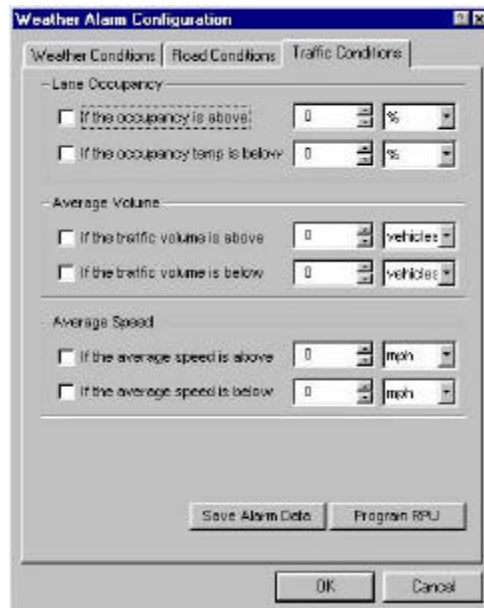

Figure 3.24 Traffic Condition Alarm
1. Using the mouse select the Traffic Conditions Tab from the menu.(ref. to fig. 3.24)
2. Highlight “Advanced Features” and verify “Hardware Motion Compensation” and “Software Motion Compensation” have a checkmark beside them (Ref to Fig 3.24).
2. Verify “Save JPEG Files” does not have a checkmark beside them (Ref to Fig 3.24).